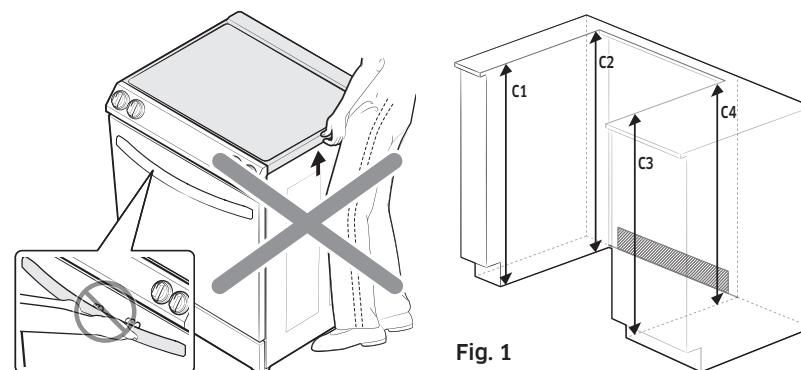

Fig. 1
2. Before installing the unit, measure the heights of the two cabinet sides (C1-C4), front and back (See Fig. 1) from the floor to the top of the counter.